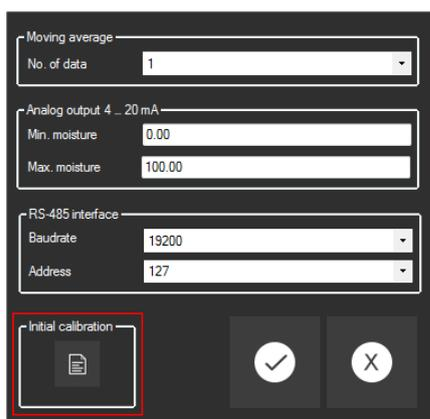

Fig. 39 Configuration electronic unit
- 2) Open menu *Configuration electronic unit* (see Fig. 39) with the button  of the main navigation bar